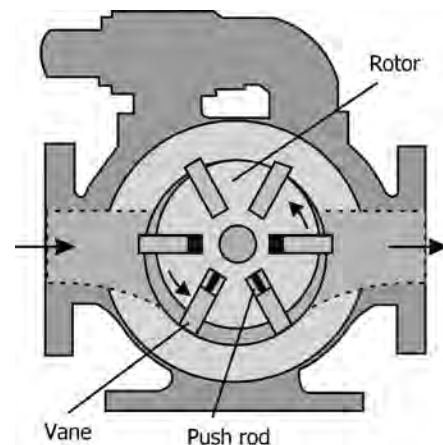

FIGURE 5.24 Sliding vane rotary pump.
- Figure 5.24 illustrates a sliding vane rotary pump.